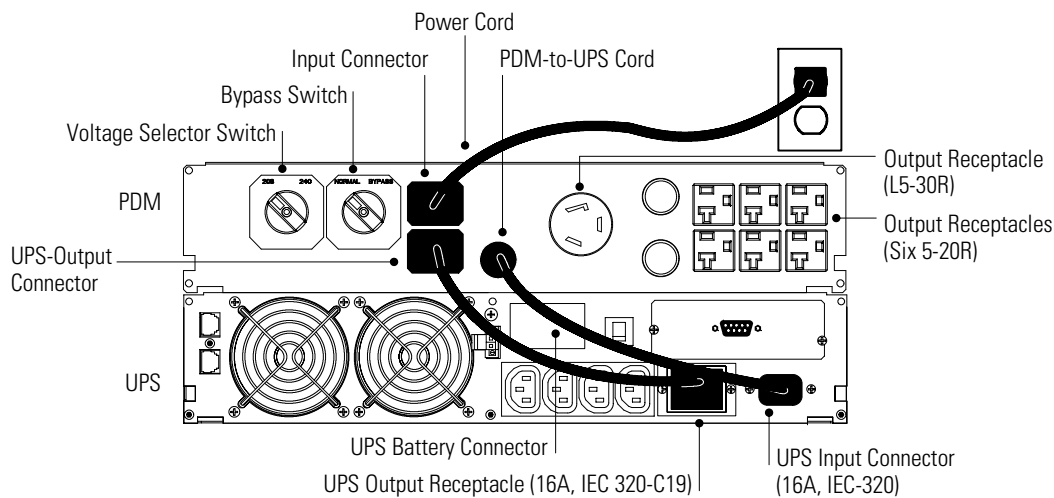

Figure 9. Typical High-Voltage Installation (PDM1-HV-US-P2 Shown)
1. Verify that the Bypass switch on the PDM is in the NORMAL position (see Figure 9).